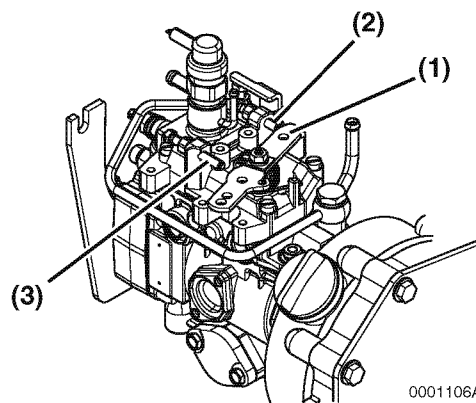

Figure 5-12
1. Check that the governor lever (**Figure 5-12, (1)**) makes uniform contact with the low idle (**Figure 5-12, (2)**) and high idle (**Figure 5-12, (3)**) speed limit screws when the engine speed control is in the high idle speed or low idle speed position.